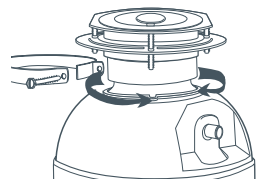

Fig. 10 Tightening the clamp
- 12 While still supporting the body of the waste disposer, tighten the screw clamp around the rubber splash guard (fig.10). The waste disposer will now hang by itself.